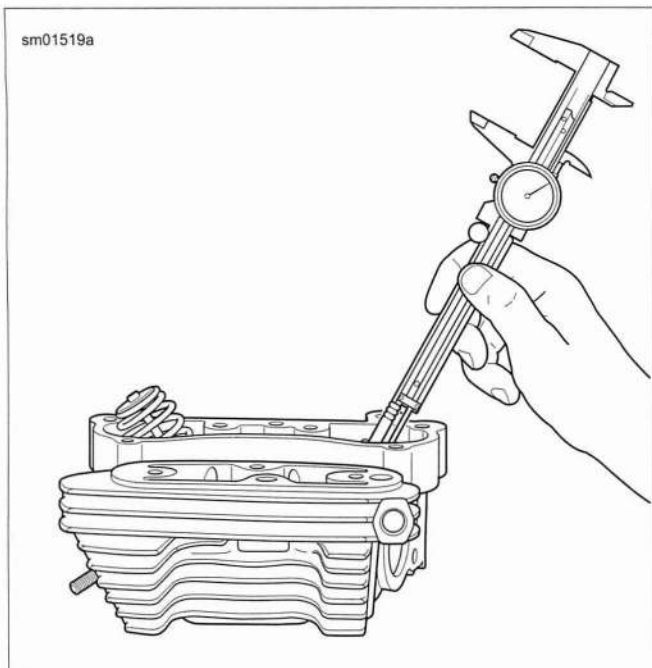

Figure 3-57. Measuring Valve Stem Protrusion
2. See Figure 3-57. Check valve seats for recession by measuring valve stem protrusion.